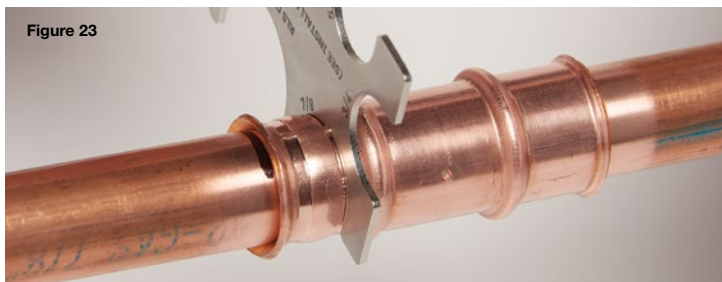

Figure 23
17. The RLS crimp gauge will confirm the finished crimp band diameter. The gauge is marked to align with the proper size fitting and crimp required. When properly crimped, the RLS crimp gauge allows the marked slot to fit snug on the crimp band (Figure 23). If the crimp band is unable to fit within the marked slot on the gauge, it is under-crimped and will need to be re-crimped starting with Step 12.